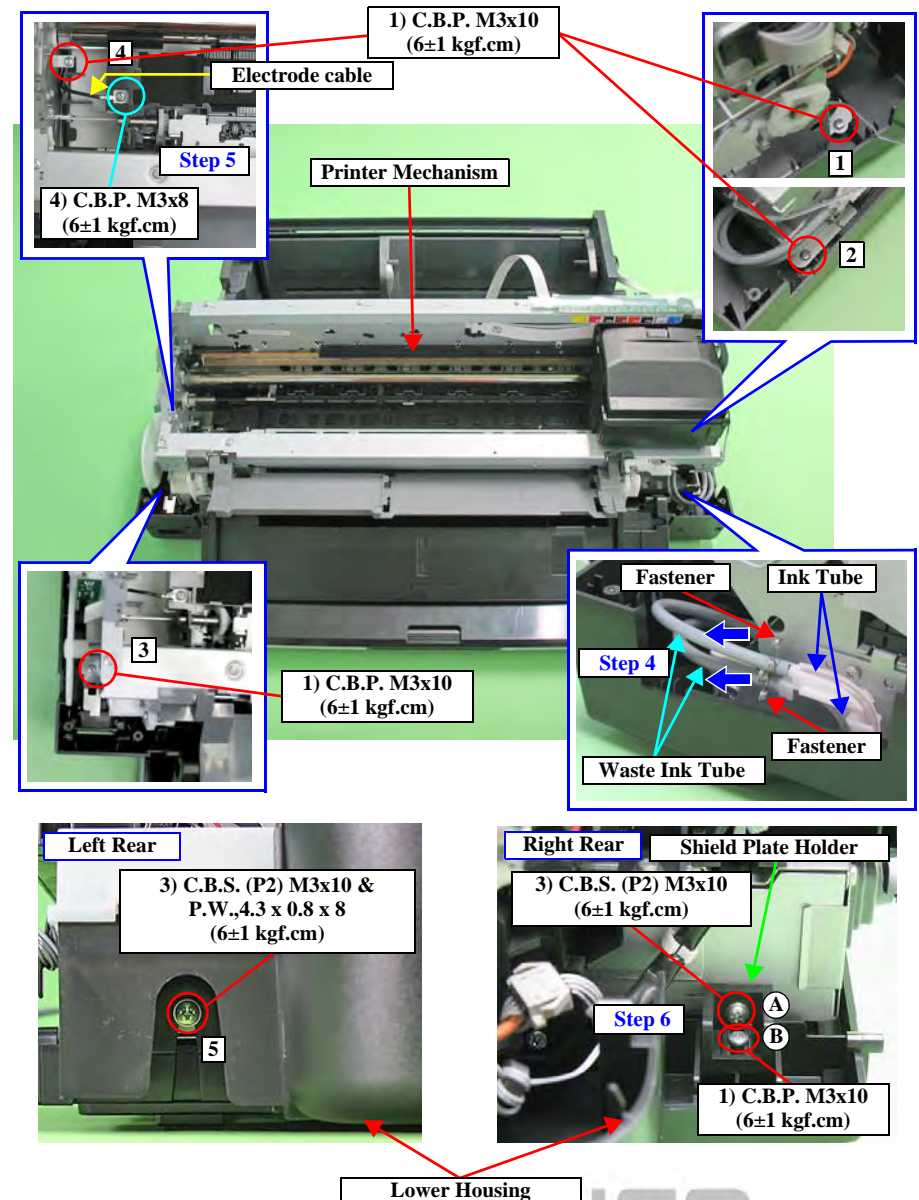
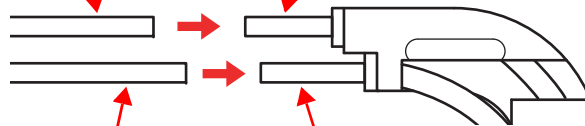

Figure 4-62. Screws that Secure the Printer Mechanism
Figure 4-64. Installing the Ink Tubes
- Insert the Waste Ink Tube as shown in the figure below, and secure it firmly with the Fastener. (refer to Figure 4-62 & Figure 4-64)
- Install the Printer Mechanism to the Lower Housing as follows. (refer to Figure 4-62)
2. Place the Printer Mechanism on the Lower Housing and secure the Shield Plate Holder and the Printer Mechanism with the screw (A).
4. Secure the Printer Mechanism and Lower Housing with screws (x5). (**Tighten the screws in the order shown in Figure 4-62**)